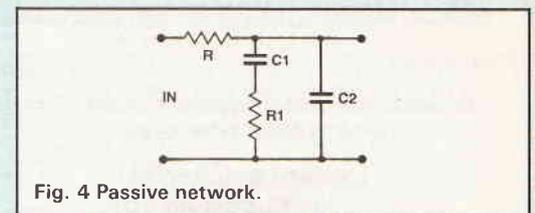
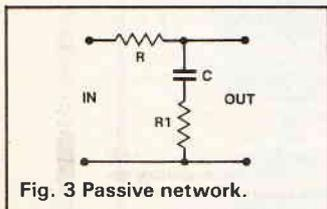
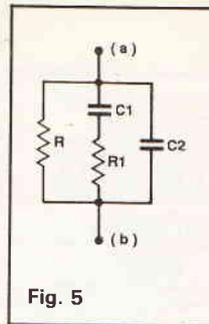
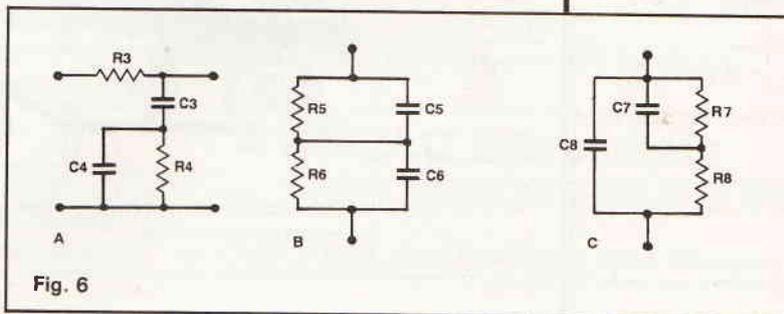

Fig. 4 Passive network.
Fig. 3 Passive network.
Fig. 5
Fig. 6
As a preliminary, consider a passive network to accommodate  $t_3$  and  $t_2$  as Figure 3. The Gain is
Now consider a network to suit all three time constants as Figure 4, similar to Figure 3 but with an extra capacitor. We must calculate from scratch and starting with the group,  $R_1C_1C_2$ , if we call the overall impedance 'Z', we have
Consider now the same components as Figure 4 but with resistor R repositioned as Fig 5. The overall impedance from a to b which we call  $Z_1$  can be found
This is precisely the same as the GAIN of network Figure 4. Thus the overall impedance of network Figure 5 varies in accordance with the RIAA response
The following three networks other than that shown can be used in a RIAA equaliser (Figure 6). Firstly, it can be used as a passive attenuator shown in (A). With  $R_3$  repositioned as in Figure 5, this network and also (B) and (C) are suitable for use in a feedback arrangement. The ultimate value of the components used, must of course be satisfactory for the circuit in which the network is used. The above ratios however are paramount.